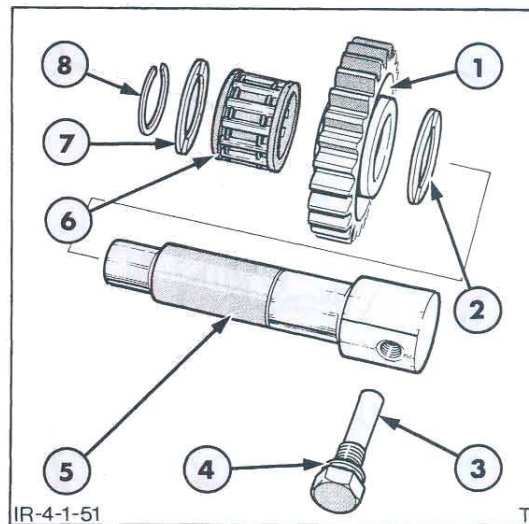
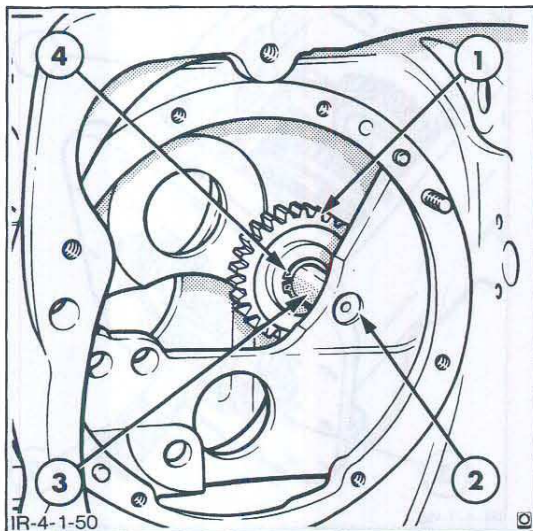

Figure 52
Figure 51
5. Remove the snap ring from reverse gear idler shaft, Figure 51, and slide the shaft rearwards from the transmission case retrieving the gear, bearing and thrust washers as the shaft is removed, Figure 52.